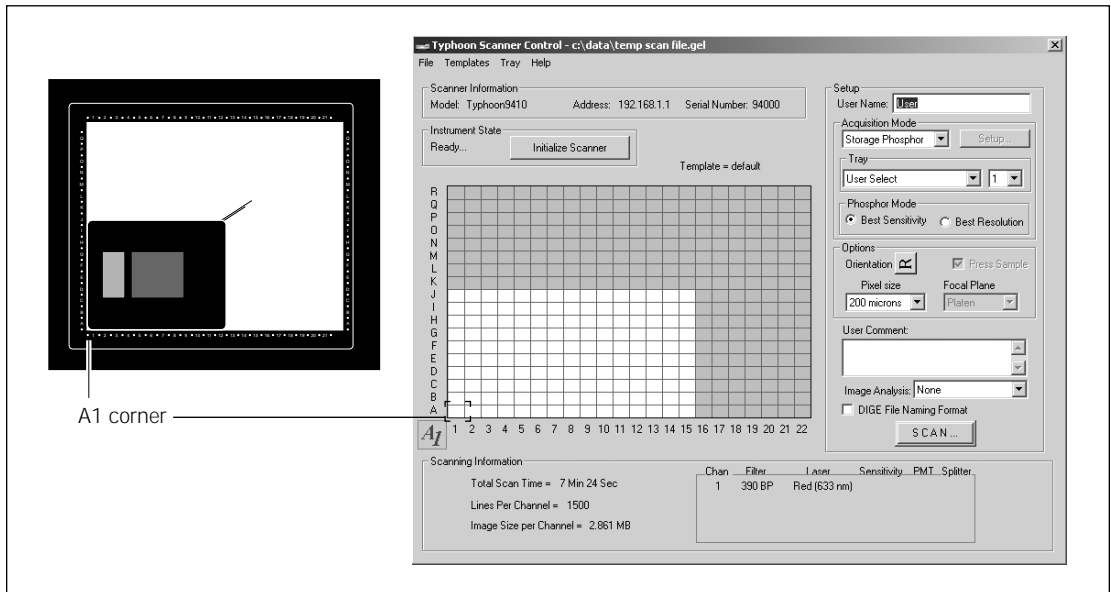

Figure 6-5. Selecting the scan area.
3. Drag the pointer to the grid square that corresponds to the highest lettered and numbered grid square of the area you want to scan (figure 6-5).